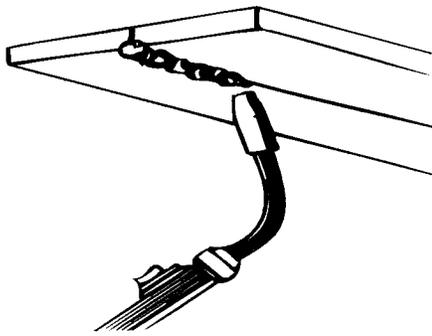

Figure 12. Overhead Position Weld
- The OVERHEAD POSITION (Figure 12) is the most difficult welding position because gravity is pulling at the weld puddle trying to make it drip off the work piece. Angle A (see POSITION OF THE GUN TO THE WORK PIECE, above) should be maintained at 60 degrees, the same as in the flat position. Maintaining this angle will reduce the chances of molten metal falling into the nozzle should it drip from the weld puddle. Angle B should be held at zero degrees so that the wire is aiming directly into the weld joint. If you experience excessive dripping of the weld puddle, select a lower heat setting. Also, the weave bead tends to work better than the stringer bead when welding overhead.